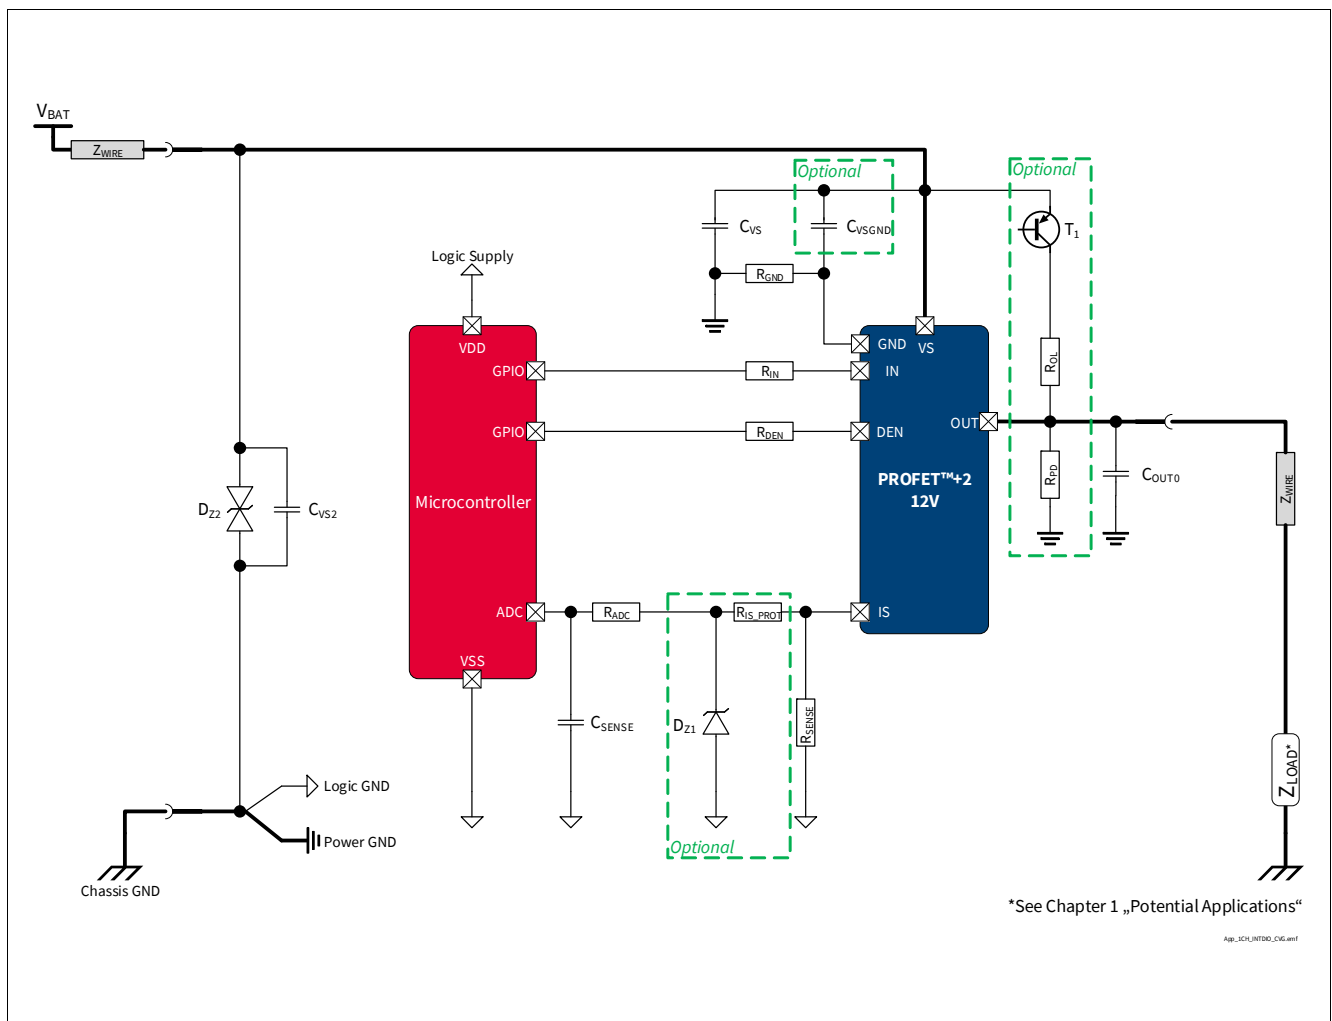
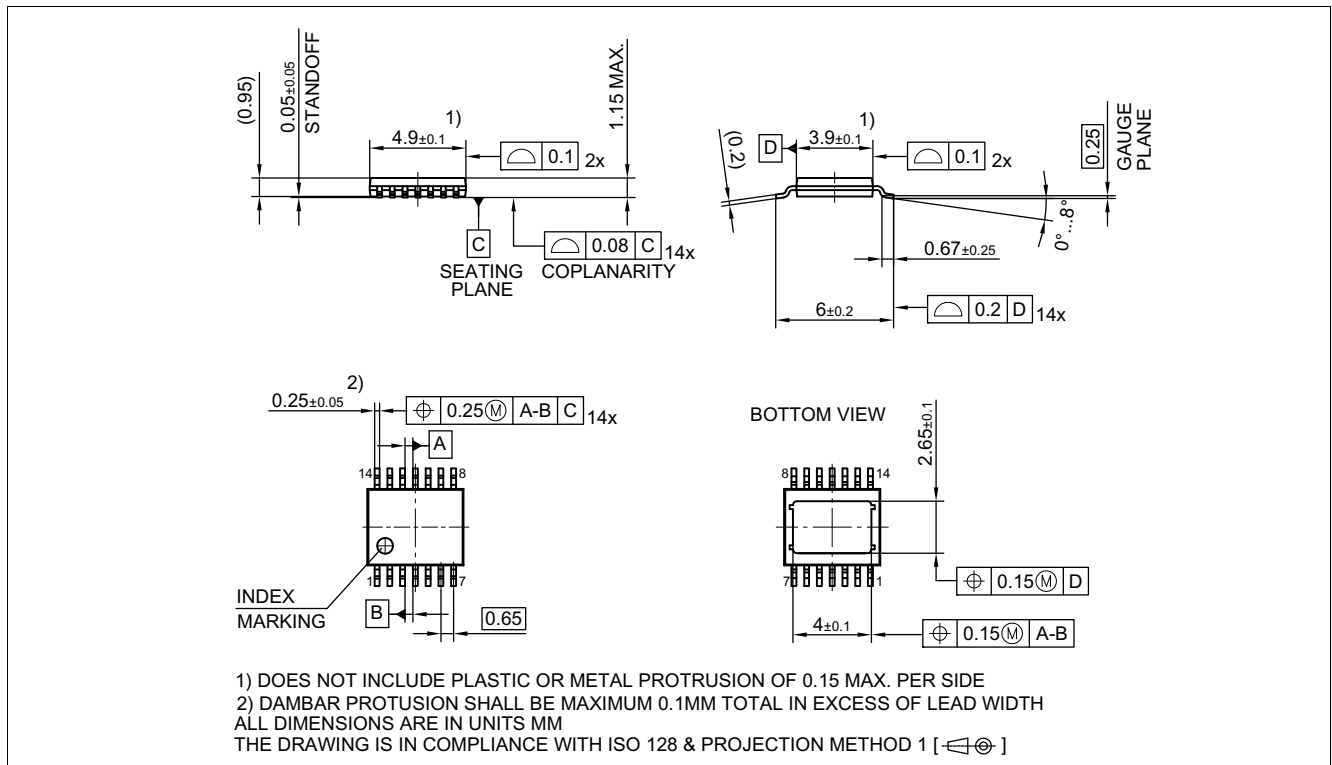
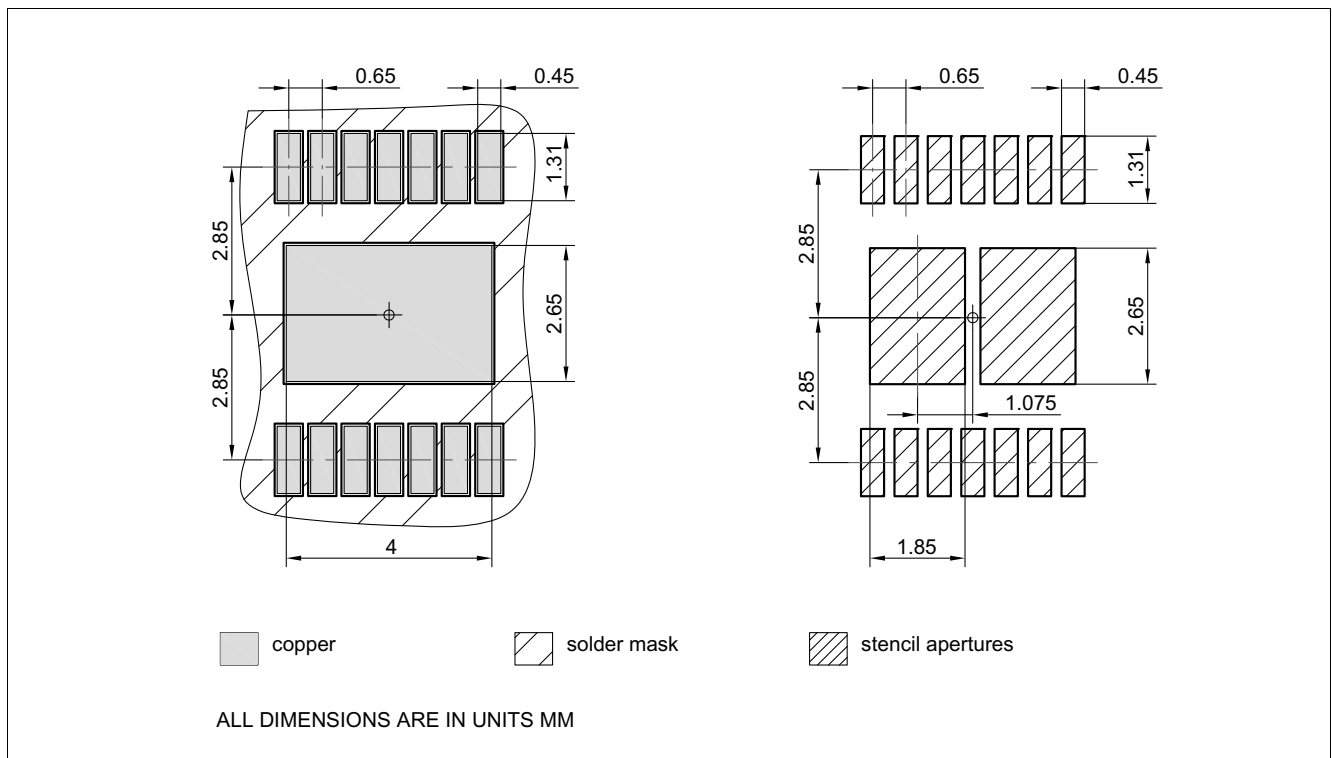

Figure 37 BTS7004-1EPP Application Diagram
Figure 38 PG-TSDSO-14 (Thin (Slim) Dual Small Outline 14 pins) Package Outline
Figure 39 PG-TSDSO-14 (Thin (Slim) Dual Small Outline 14 pins) Package pads and stencil
1.03, 2019-10-15	<p>P_6.5.21.1 updated (Typ.: 0.01 μA \rightarrow 0.05 μA) P_8.7.11.1, P_8.7.11.7, P_8.7.11.8 updated (added in Note or Test Condition: link to Figure 24) P_7.5.11.5 updated (added in Note or Test Condition: see Figure 18) P_7.5.11.12 updated (added in Note or Test Condition: see Figure 20; deleted unnecessary space in Symbol: $dV_{OUT} / dt \rightarrow dV_{OUT} / dt$) P_8.7.11.6 updated (added in Note or Test Condition: see Figure 25) P_9.7.11.1 updated (added in Note or Test Condition: see Figure 32) Figure 1, Figure 37 updated P_4.3.0.7 added Table 22 updated Chapter 5.1 updated (added: see Chapter 10 for the complete application setup overview)</p>
1.01, 2019-02-05	<p>Figure 9, Figure 10 updated P_7.5.11.10 updated (Min./Typ./Max.: - / - / 10 μA \rightarrow - / - / 15 μA) Page 1: updated (figure product) Table 22 updated (punctuation) Chapter 9.3, Chapter 9.3.1 updated (typo) Page 1: updated (Package PG-TSDSO-14-22 \rightarrow Package PG-TSDSO-14) Figure 38 updated (PG-TSDSO-14-22 (Thin (Slim) Dual Small Outline 14 pins) Package Outline \rightarrow PG-TSDSO-14 (Thin (Slim) Dual Small Outline 14 pins) Package Outline) Figure 39 updated (PG-TSDSO-14-22 (Thin (Slim) Dual Small Outline 14 pins) Package pads and stencil \rightarrow PG-TSDSO-14 (Thin (Slim) Dual Small Outline 14 pins) Package pads and stencil) Table 1 updated (Parameter: Minimum Overvoltage protection ($T_J = 25$ °C) \rightarrow Minimum Overvoltage protection ($T_J \geq 25$ °C)) Table 1 updated (Symbol: $I_{VS(OFF)} \rightarrow I_{VS(OFF)_85}$) P_6.5.21.1 updated (Symbol: $I_{VS(OFF)} \rightarrow I_{VS(OFF)_85}$) P_6.5.21.2 updated (Symbol: $I_{VS(OFF)} \rightarrow I_{VS(OFF)_150}$) P_4.2.11.3 updated (Note or Test Condition: \rightarrow -) Figure Application Diagram, Figure 29, Figure 37 updated P_4.1.0.21, P_4.1.0.22, P_4.1.0.23, P_4.1.0.24 updated (footnote ESD standards) Table 1 updated ($R_{DS(ON)} \rightarrow R_{DS(ON)_150}$), ($V_{DS(CLAMP)} \rightarrow V_{DS(CLAMP)_25}$) Chapter 8.5.2 updated (phrasing) Chapter 6.4, Chapter 7.5, Chapter 8.7, Chapter 9.6 updated (added conditions) Figure 28 updated (Over Load \rightarrow Overload, deleted bow) P_9.6.4.8, P_9.6.4.9 updated (removed line before the footnote)</p>